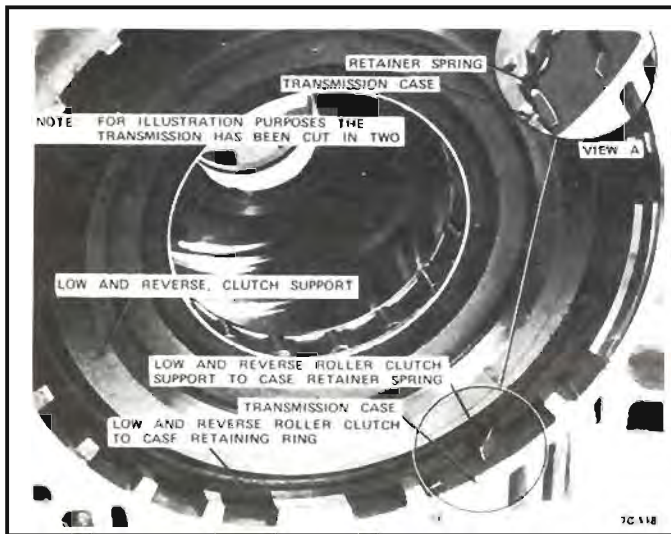

Figure 36 Retainer Position
1. Remove low and reverse roller clutch support to case retaining ring. *See Figure 36.*
3. Remove low and reverse clutch support retainer spring. *See Figure 36.*